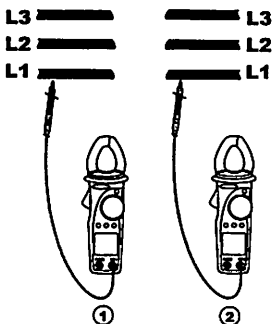
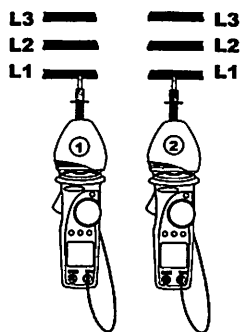

Fig. 16: phase detection
Fig. 17: phase detection with rubber cup
3. Connect the red terminal to the L1 phase conductor (see Fig. 16, 1st measurement). If necessary, use the rubber cup to insert red test lead (see Fig. 17, 1st measurement).